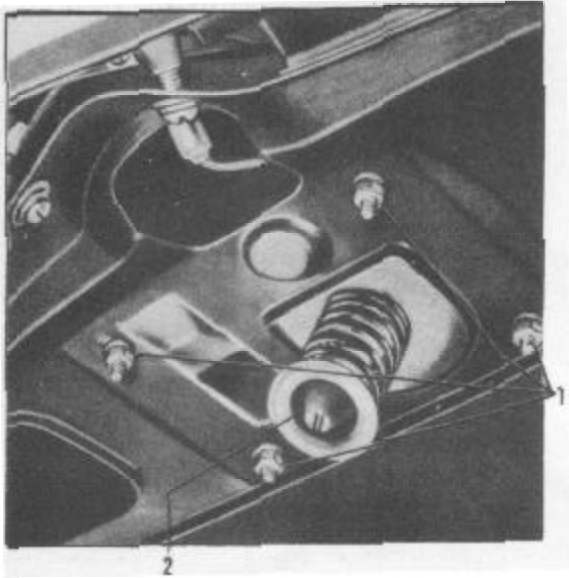

FIGURE 19
1. With a screwdriver remove the spring retainer bolt (2) from the attaching nut and remove retainer and spring, Figure 19.
2. Remove the four attaching nuts and washers (1) from lock support plate. 3. Remove the two sheet metal screws from bracket at rear of assembly and slide assembly to one side and remove.